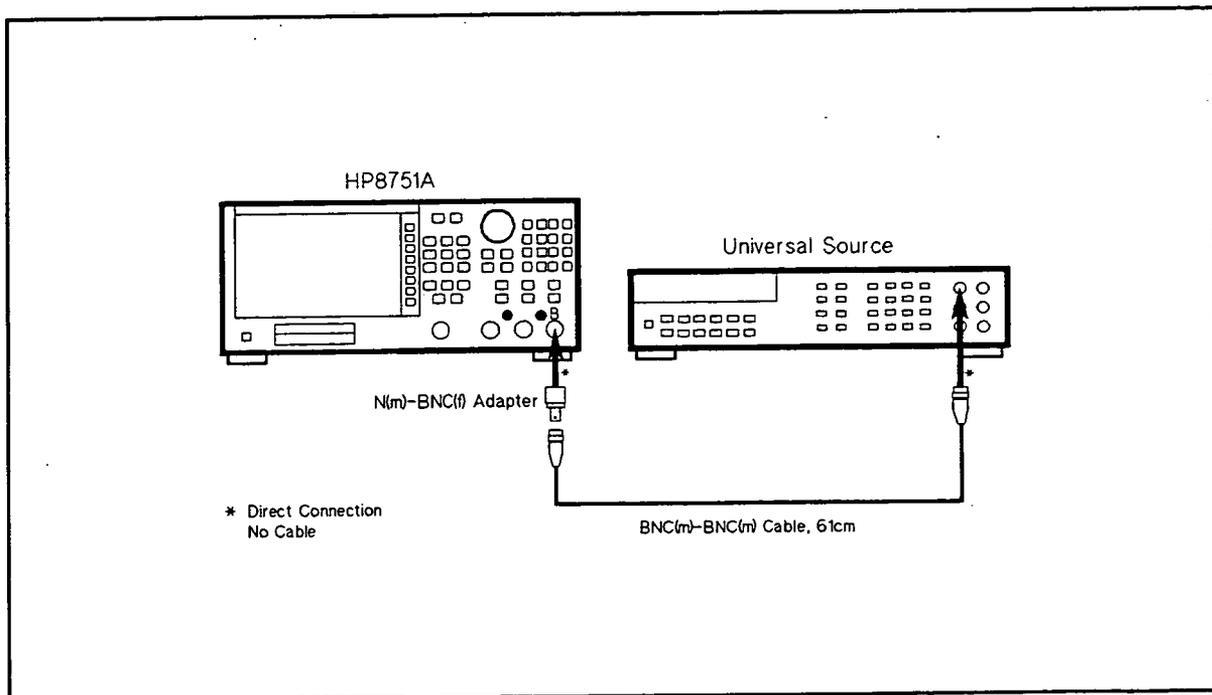

Figure 2-32. DC Measurement Range and Accuracy Test Setup
1. Connect the equipment as shown in Figure 2-32.